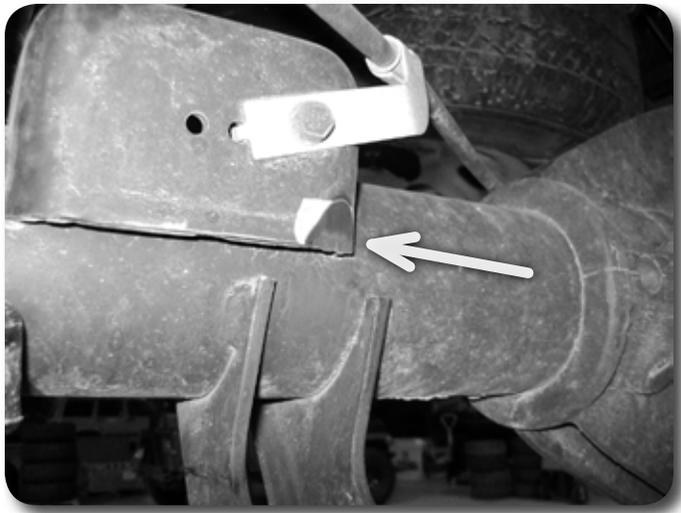

Figure 8
14. **INSTALLING NEW OPTIONAL ZONE SHOCKS ONLY:** The passenger's side bump stop bracket on the axle must be trimmed slightly to add clearance for the new larger rear shocks. Grind the inside front corner to gain approximately 1/4" of clearance. **Figure 8** Paint bare metal to prevent rust.